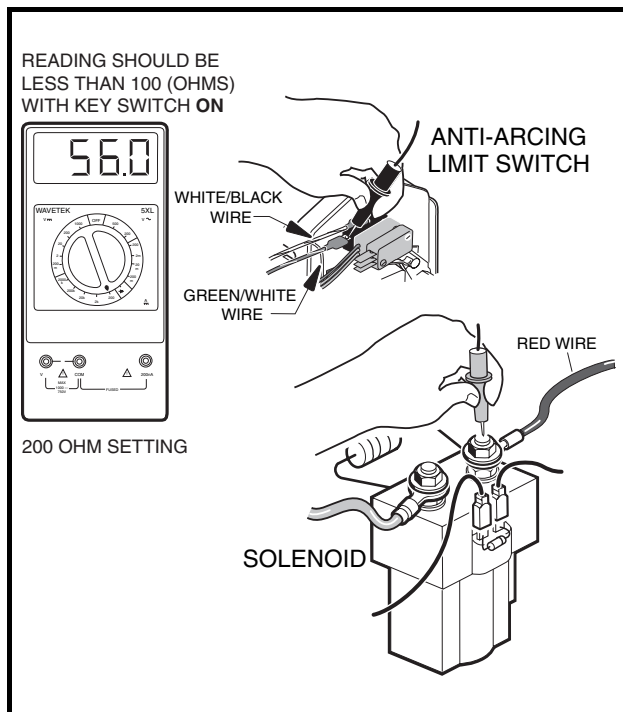

Figure 11-12 Key Switch Test
1. With batteries disconnected, place red (+) probe of multimeter set to 200 ohms on large terminal of solenoid (with red wire attached) (**Figure 11-12, Page 11-17**).
7. Place red (+) probe of multimeter on large terminal of solenoid (with red wire attached) and place black (–) probe at green/white wire from the Forward/Reverse limit switch no. 1 (**Figure 11-12, Page 11-17**).